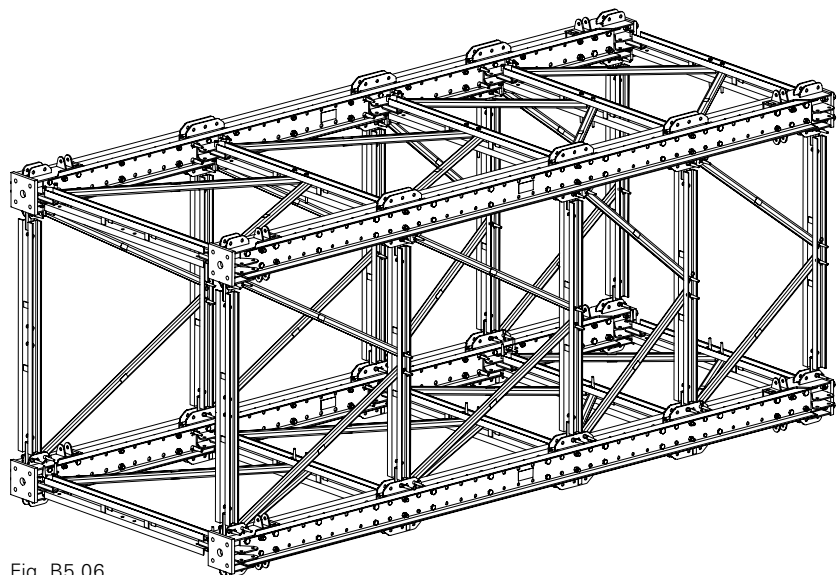

Fig. B5.06
1. Install the required number of Diagonal Struts VST. (Fig. B5.06) (see Section B3)